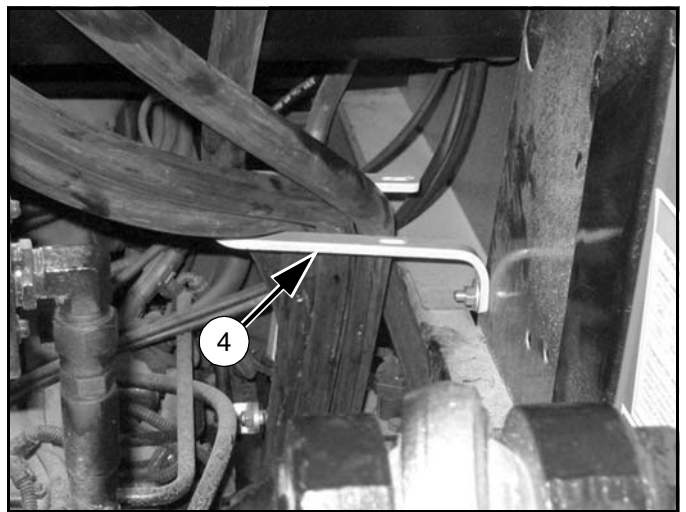

Figure 17. Hose Hanger
2. Place hoses in hose hanger (4) (Figure 17) and secure using lock pin (5).